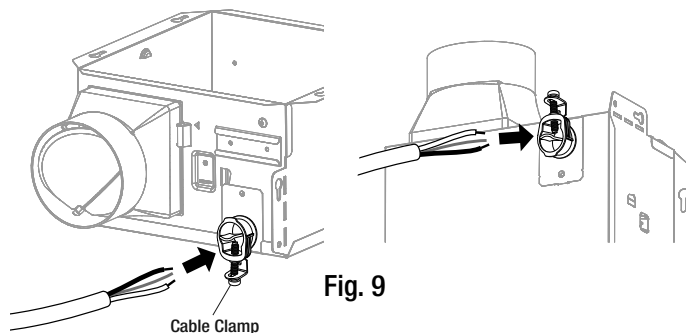

Fig. 9
- Install a cable clamp (not supplied) to the wiring hole of the fan housing in either of the two available locations as shown in figure 9.
- Feed the electrical supply cable through the cable clamp. See figure 9.